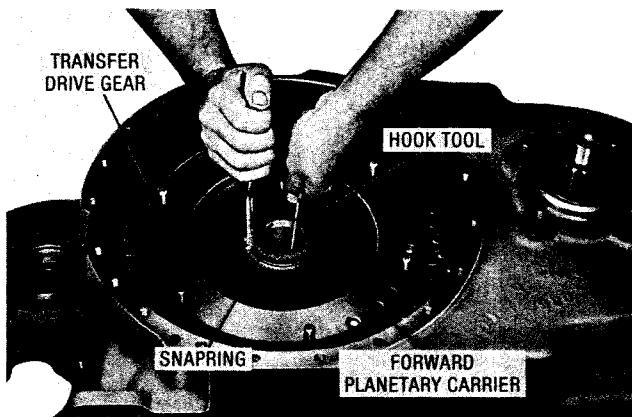

Fig. 7-23. Installing transfer drive gear snapping (TT, TTB)
(2) Using a suitable hook-type tool, raise the forward planetary carrier sufficiently to expose the snapping groove in the splined hub, and install the snapping (fig. 7-23).